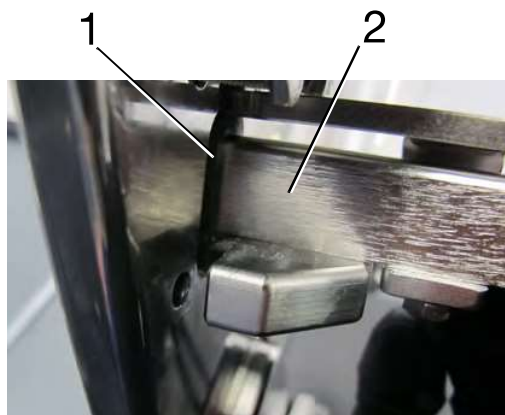

Fig. 7-26 1 Clip window
- Refit the magazine and guide the lower part of the magazine rod (2) into the clip window (1) (Fig. 7-26).